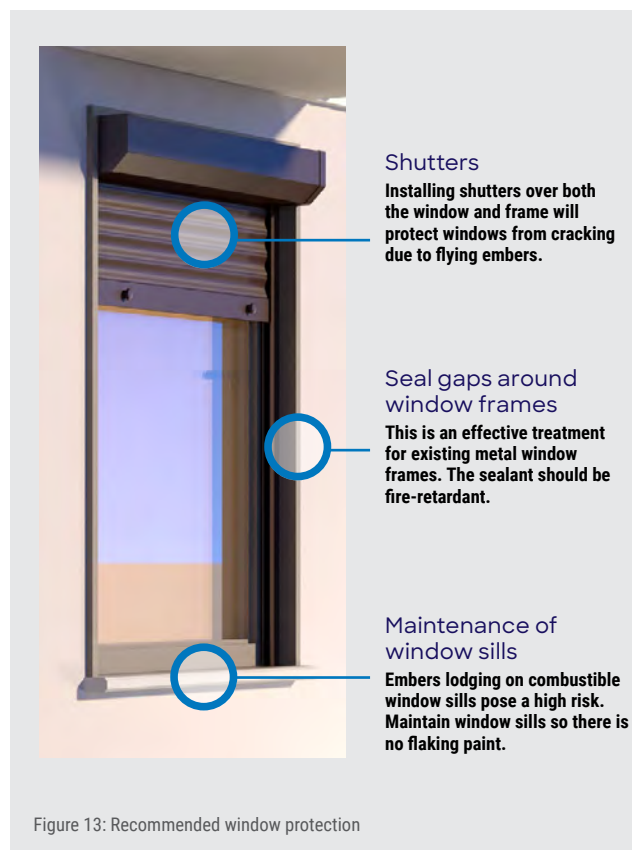

Figure 13: Recommended window protection
- Exterior window shutters can provide protection for windows and sliding glass doors in a wildfire (see figure 13).
- Double and triple glazing has performed much better than single glazing in wildfires, with the inner glass remaining intact despite the outer layer breaking and falling out. It is better to choose multi-pane options containing tempered glass for windows for both wildfire resilience and energy efficiency (see figure 13).